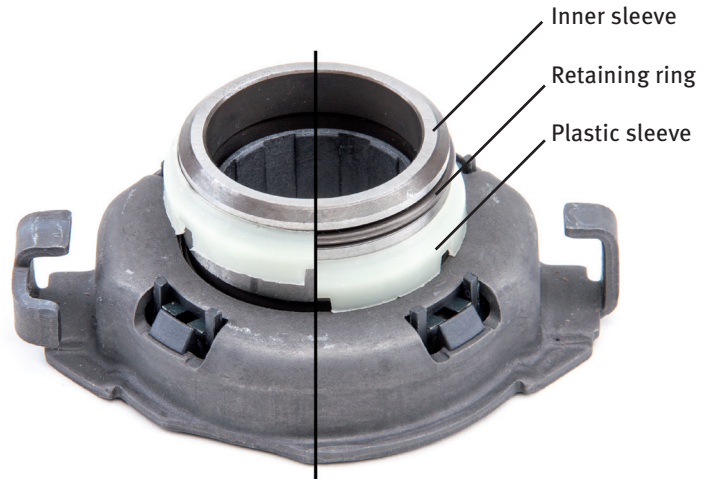
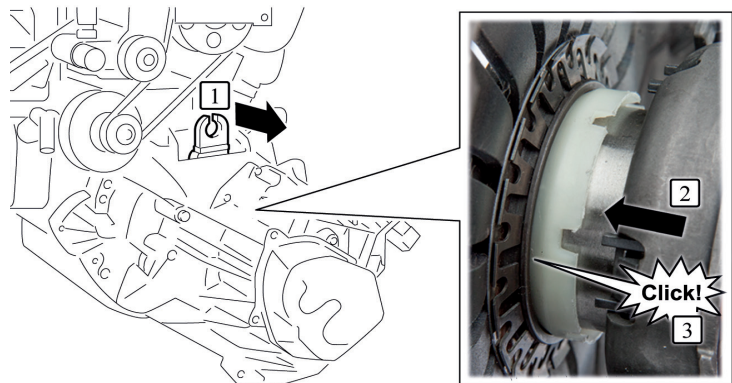

Fig. 3: The retaining ring is pre-tensioned (left) or released (right) by the plastic sleeve
Fig. 4: With a strong jolt against the release lever, the bearing snaps into position in the clutch with an audible click.
3. After installation of the gearbox, the release bearing must be blocked in place against the pressure plate by means of the release lever. In order to make it possible to do this from outside, it is equipped with a retaining ring. A plastic sleeve keeps that ring under pre-tension (Fig. 3, left). As soon as the release bearing is pressed onto the pressure plate, the inner sleeve slides into the opening of the diaphragm spring. In so doing, the plastic sleeve remains in place and releases the retaining ring (Fig. 3, right). The latter then engages into groove of the holding ring of the diaphragm spring with an audible click (Fig. 4).